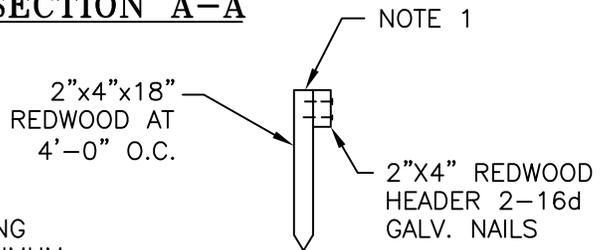

FIGURE 1
1. AFTER DRIVING STAKE, TOP OF STAKE TO BE CUT OFF FLUSH WITH 2"x4" HEADER (SEE FIG. 1).